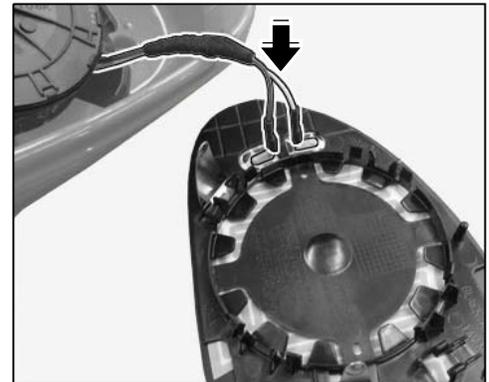

Figure 19
- 4.8.2 Connect plug connection for mirror heating ⇒ *Figure 19* -arrow-.